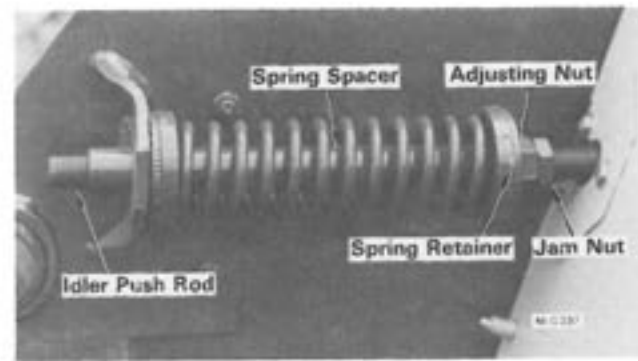

Figure 29
1. With the Shredder running, look at the idler push rod, Figure 29, to see if there is any back and forth movement. If there is, the belt tension needs to be adjusted.
2. Loosen the jam nut and tighten the adjusting nut one full turn, see Figure 29.
11. Turn the idler spring adjustment nut clockwise until the spring retainer is up to, but not tight against, the spring spacer, see Figure 29.
3. If the idler pulley is out of alignment, loosen the idler spring jam nut and back off the adjusting nut to relieve all idler spring tension, see Figure 29.